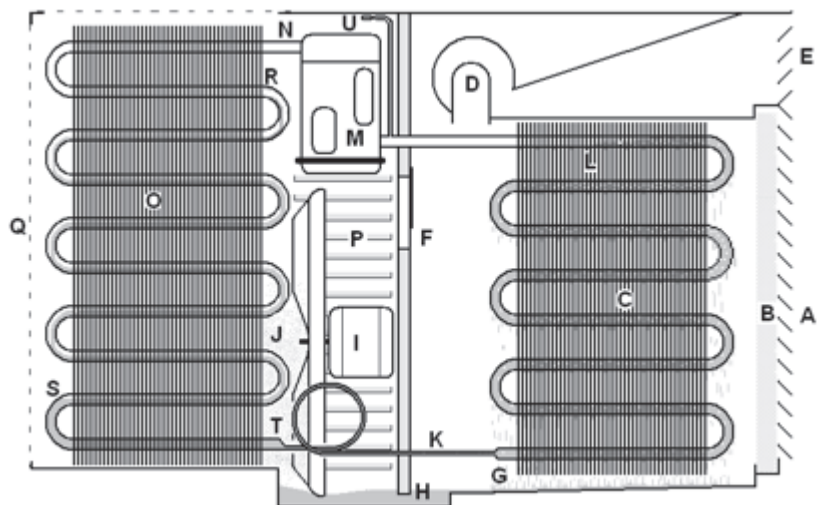

Figure 5-40. Window unit
While they're not as common as they used to be the typical window unit (Figure 5-40), is a packaged air conditioning system that incorporates a complete refrigeration cycle within it to transfer heat from the room to the atmosphere outside the window, is still familiar to most of us. Air from the room (A) is drawn into the unit through a filter (B) that cleans the air, the air passes over an evaporator coil (C) with fins that removes the heat from the air and condenses some of the moisture in the air then a fan (D) blows the air back into the room (E) at a high velocity so that it mixes with the rest of the room air to produce the comfortable condition. To achieve all the requirements for air conditioning there's usually a small damper (F) in the barrier between the indoor and outdoor air that can be opened to admit outside air into the flow of room air to be conditioned to achieve ventilation. Condensate which is moisture removed from the room air drips (G) into a drain pan at the bottom of the unit and passes through a trap (H) formed in the bottom of the casing to the outdoor side of the unit. A slinging ring attached to the outside of the condenser fan (I) picks up the condensate and hurls it at the condenser (J). Heat from cooling the air and condensing the moisture is absorbed by the refrigerant with flow into the evaporator controlled by a metering device, in Figure 5-40 a capillary (K) and, for the typical window unit with R-134a into the evaporator (C) at a pressure of 35 psig which corresponds to a saturation temperature of 40°F. The boiling refrigerant absorbs the heat from the room air and condenses some of the moisture from the room air to cool it from a design room temperature of 75°F to approximately 55°F. Once all the refrigerant has evaporated (L) the gas is heated to a leaving temperature of 50 to 60°F (10 to 20 degrees of superheat). The refrigerant passes through the insulated barrier between the room and outdoors to the inlet of the compressor (M). The gas is compressed by the compressor to a pressure of 100 psig raising the temperature of the gas that enters the condenser to 200°F. The condenser (O) transfers the heat removed from the room along with the heat added by the compressor to outside air drawn into the outside casing by the condenser fan (I) through louvers in the side (P), passing over the condenser and out grills (Q) at the back and top of the unit. The grill at the top of the unit permits admission of rain water that can assist in cooling when the moisture contributed to the room air by the moisture from the rain penetrating the room
The diagram of Figure 5-40 shows a feature common on small equipment, a service stub (U). That short length of tubing is provided to permit attachment of a tapping valve to permit connection of a gage set (Figure 5-3) to determine the unit suction pressure and add or remove refrigerant if necessary. A service stub is common on window units, residential refrigerators and freezers, wine coolers, etc. Whenever a tapping valve is used it should be removed by first crimping the tubing between the location of the tapping valve and the suction line then, after removing the valve, trimming the stub end and soldering it closed. If the valve is left in place it's likely it will vibrate loose followed by loss of all the refrigerant. A single connection is all that's required for equipment with a capillary for the throttling device because the manufacturer always provides tables for determining the proper charge of refrigerant based on load data and superheat or subcooling.